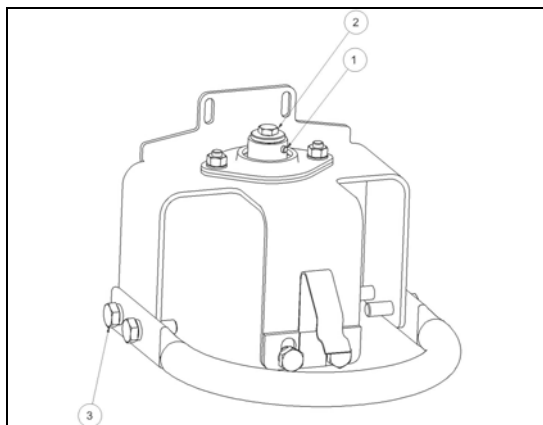

Fig. 81
- After unscrewing bolts 1, 2 and 3 of the bracket (Fig. 81), pull the bracket off the shaft (CAUTION!!! The brackets must not be mixed! MARK THEM)
- Tighten the screws in the order 3, 2 and 1 (Fig. 81)